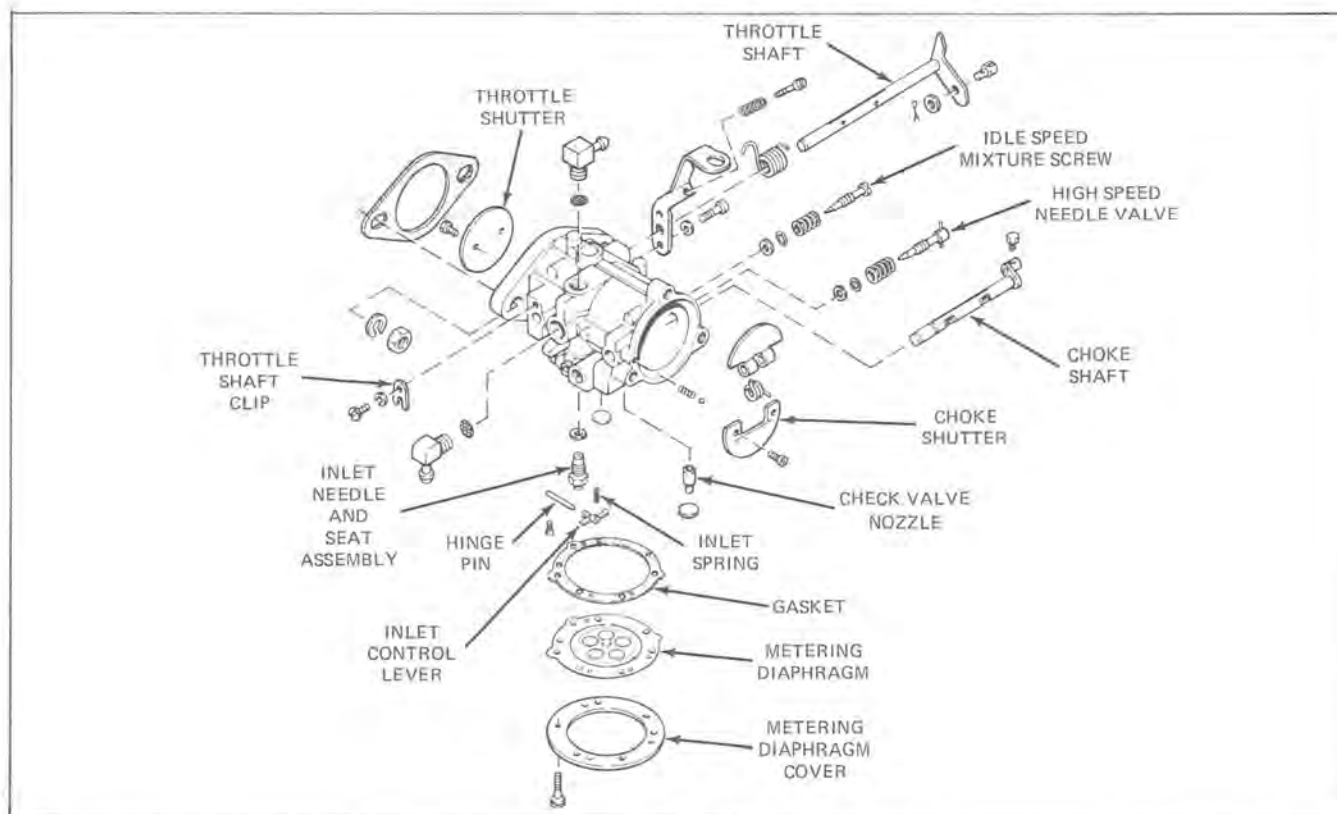

Figure 6-2
- a. Remove the idle speed mixture screw, washer and tension spring. Inspect for damaged threads (see Figure 6-2).